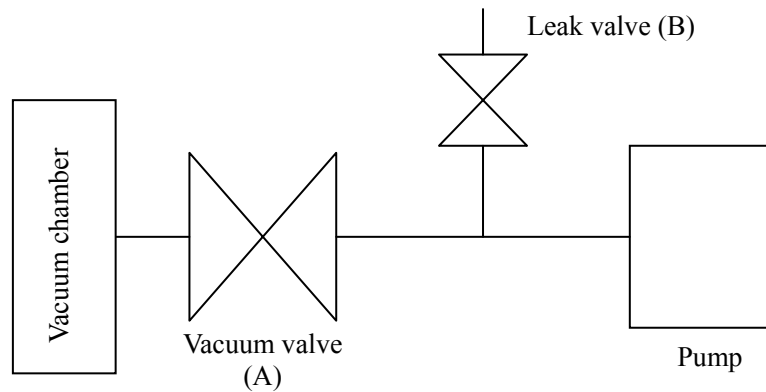

Fig. 5 Basic piping diagram to the vacuum chamber
- (2) Mount vacuum valve (A) and leak valve (B) between the vacuum chamber and pump as shown in Fig. 5.
- ① In the process of manufacturing semiconductors, pump oil may deteriorate over a very short period of time. It is recommended that the pump oil should be replaced within 10 days after starting use of the pump, and the replacement frequency of the pump oil should be decided based on the contamination level of the pump oil.
- ② If the pump evacuate a lot of moisture, replace the oil frequently. If the pump is used with gas which contains a lot of moisture, water absorption expands the vanes of the pump, the lubricity of the pump oil deteriorates and corrosion of the pump's components advance, causing the pump to malfunction.
- ③ If chemicals including acid has been evacuated, the pump may become rusty while it is not being operated (i.e. overnight), making operation impossible. If such chemicals are evacuated, replace the pump oil immediately.
- ④ Solvents which deteriorate the lubricity of the pump oil will cause scoring, etc. If such a solvent is evacuated, replace the oil.
- ⑤ If operation is performed continuously at a high evacuation pressure of 10 kPa or more, a large amount of pump oil is consumed, causing a shortage of oil and insufficient lubrication of the pump. If such a condition continues, components will rapidly wear and become scored. Avoid continuous operation at a high evacuation pressure as much as possible and, without fail, add pump oil.
- ⑥ Do not block the flow of air to the motor fan as the temperature of the motor and pump will increase.
To start operation, close leak valve (B), open vacuum valve (A) to the inlet port, and turn on the power switch. Then the pump starts to exhaust (see Fig. 5).
To stop operation, close vacuum valve (A), open leak valve (B) quickly, and turn the power switch off (see Fig. 5).